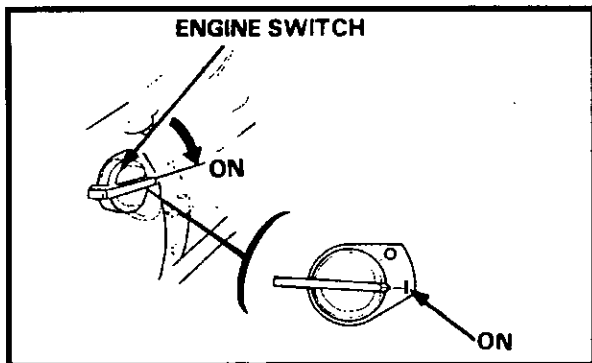

Figure 5-8 Engine ON/OFF Switch
4. Start the engine by turning the engine switch to the ON position = . Refer Figure 5-8.